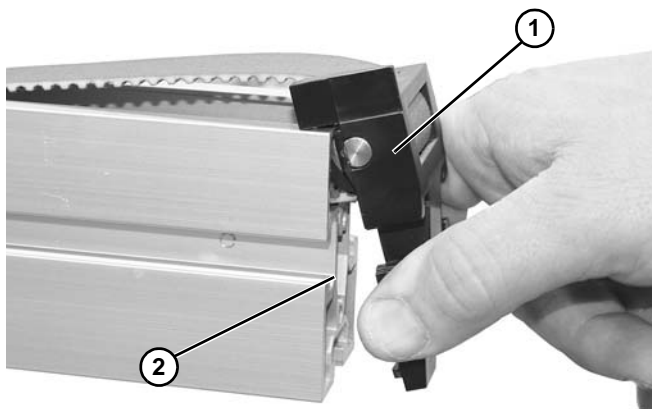

Figure 35
- Remove the end cap (**Figure 35, item 1**) from the conveyor (**Figure 35, item 2**) on both ends.